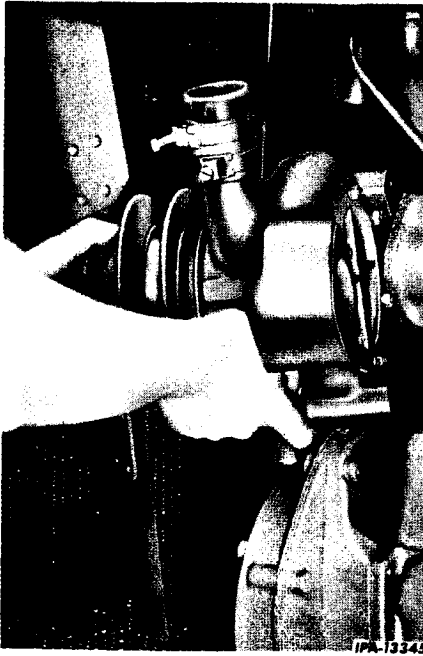

Fig. 14 - Removing the Water Pump, Pulley, and Fan From the Crankcase.
3. Loosen the upper hose clamp, remove the bolts holding the water pump to the crankcase and remove the pump, pulley and fan assembly (Fig. 14).